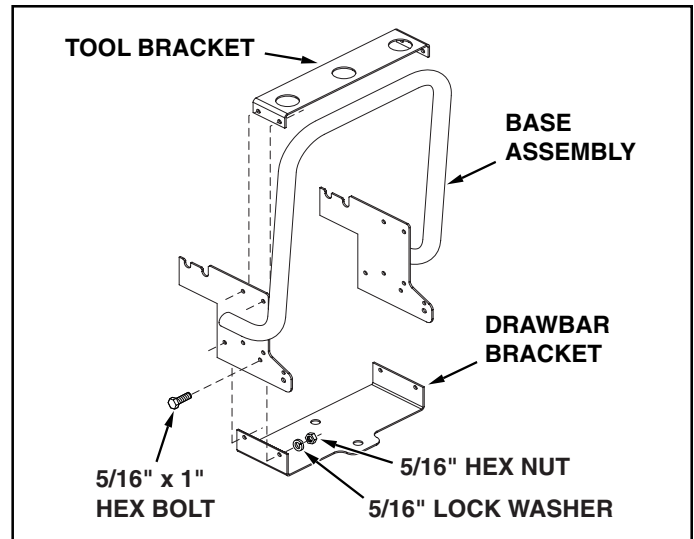

FIGURE 3
7. Assemble the drawbar bracket to the base assembly using four 5/16" x 1" hex bolts, 5/16" lockwashers and 5/16" hex nuts. See figure 3.
8. Attach the tool bracket to the base assembly using four 5/16" x 1" hex bolts, 5/16" lockwashers and 5/16" hex nuts. See figure 3.